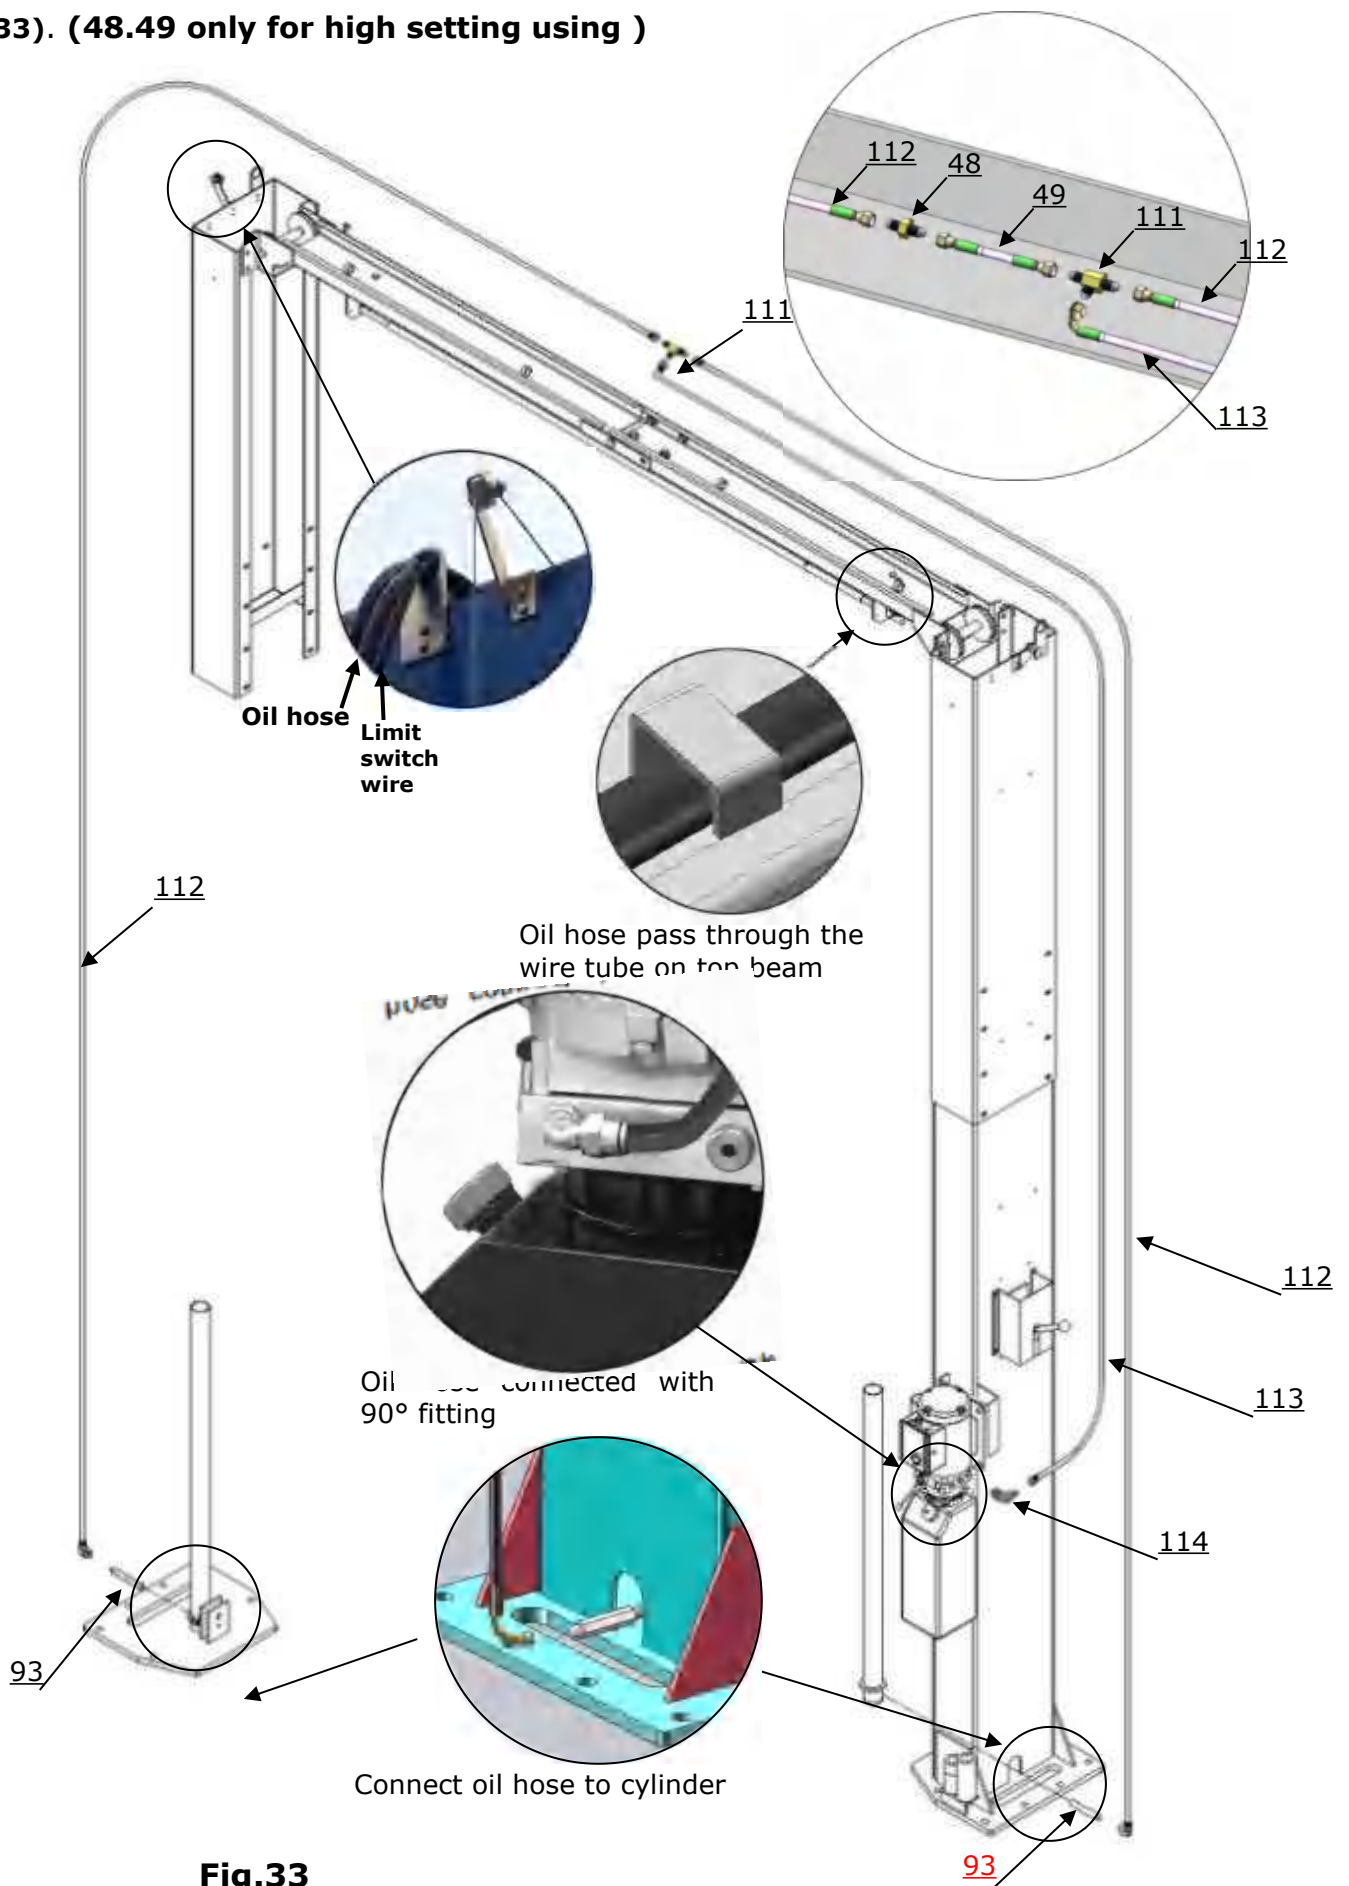

Fig.33
M. Install oil hose High setting and low setting oil hose installation. (See Fig. 33). (48.49 only for high setting using)